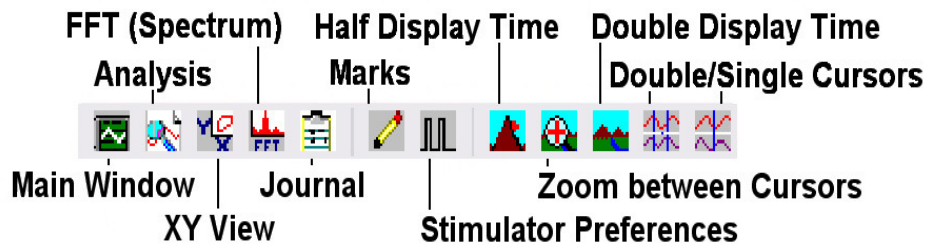

Figure HE-4-L2: The LabScribe toolbar.
- Clicking the Zoom between Cursors button on the LabScribe toolbar (Figure HE-4-L2) to expand the selected section of data to the width of the Main window.
3. Click on the Analysis window icon in the toolbar or select Analysis from the Windows menu to transfer the data displayed in the Main window to the Analysis window (Figure HE-4-L3).
Figure HE-4-L1: Gas concentrations and volumes of a standing subject displayed on the Main window. Concentrations of gases reach a steady state after the mixing chamber is filled. Cursors placed one minute apart indicate  $VCO_2$  is 0.302 liters and  $VO_2$  is 0.337 liters. Therefore, RER is 0.90.
Figure HE-4-L3: The oxygen and carbon dioxide concentrations, air flow, lung volumes STPD,  $VCO_2$ , and  $VO_2$  recorded from a resting subject as displayed in the Analysis window.